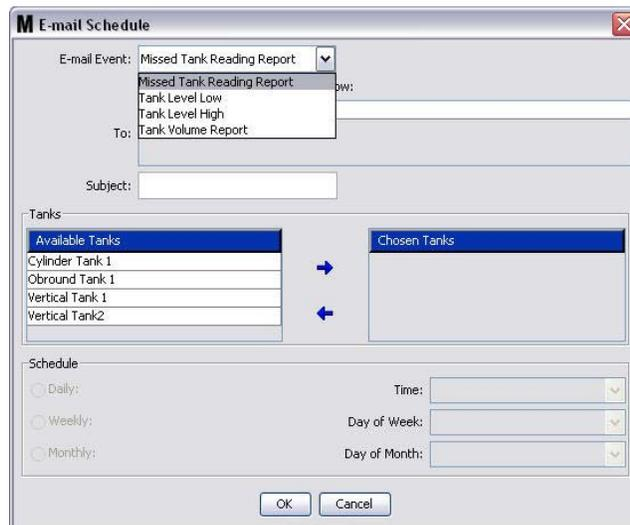

FIG. 154
1. Click the New Schedule button to display the E-mail Schedule setup screen shown in FIG. 154.
2. The E-Mail Schedule screen shown in FIG. 154 on page 117 displays. When you have finished making changes, click OK button to close the screen and save the changes.